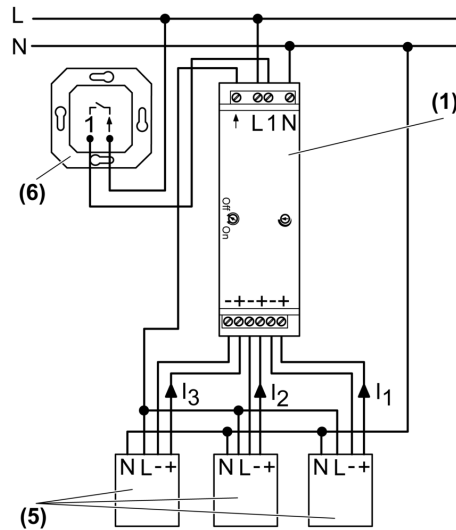
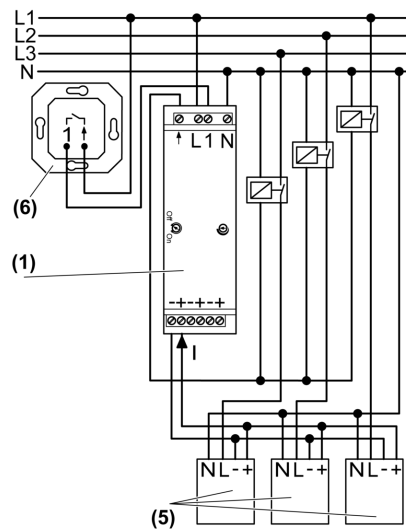

Figure 2: Connection diagram, single-phase
Figure 3: Connection diagram, three-phase
i The maximum number of lamp operating devices that can be controlled by the control unit is the sum of the control currents $I_1 + I_2 + I_3$ (Figure 2) and I (Figure 3) (see chapter 6.1. Technical data). For the control current of the lamp operating devices, see the information provided by the manufacturer.
- Connect control unit in accordance with connection diagram, single-phase (Figure 2) or according to connection diagram, three-phase (Figure 3).